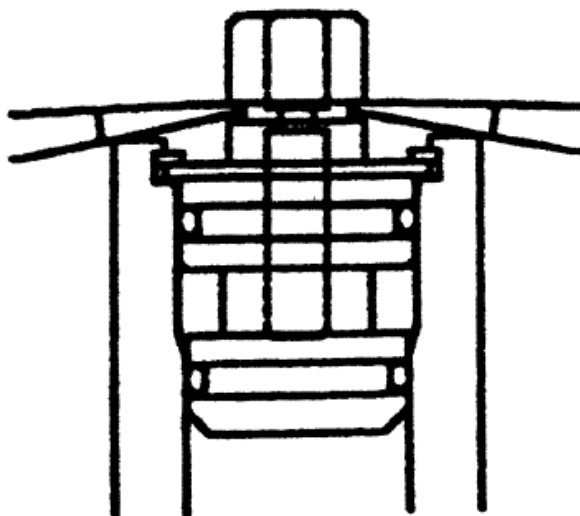

Figure 3. Removing the Servo Valve Seat
- B. Remove retaining ring (30).
- C. Using two flat blade screwdrivers as levers (see Figure 3), lift out seat (19).
- D. Remove plunger (31) and packing (28) from inside of seat (19). Remove packing (28) from plunger (31).
- E. Remove packings (22 and 24) from seat (19).
- F. Lift ball (33) and spring (39) out of valve body (1).